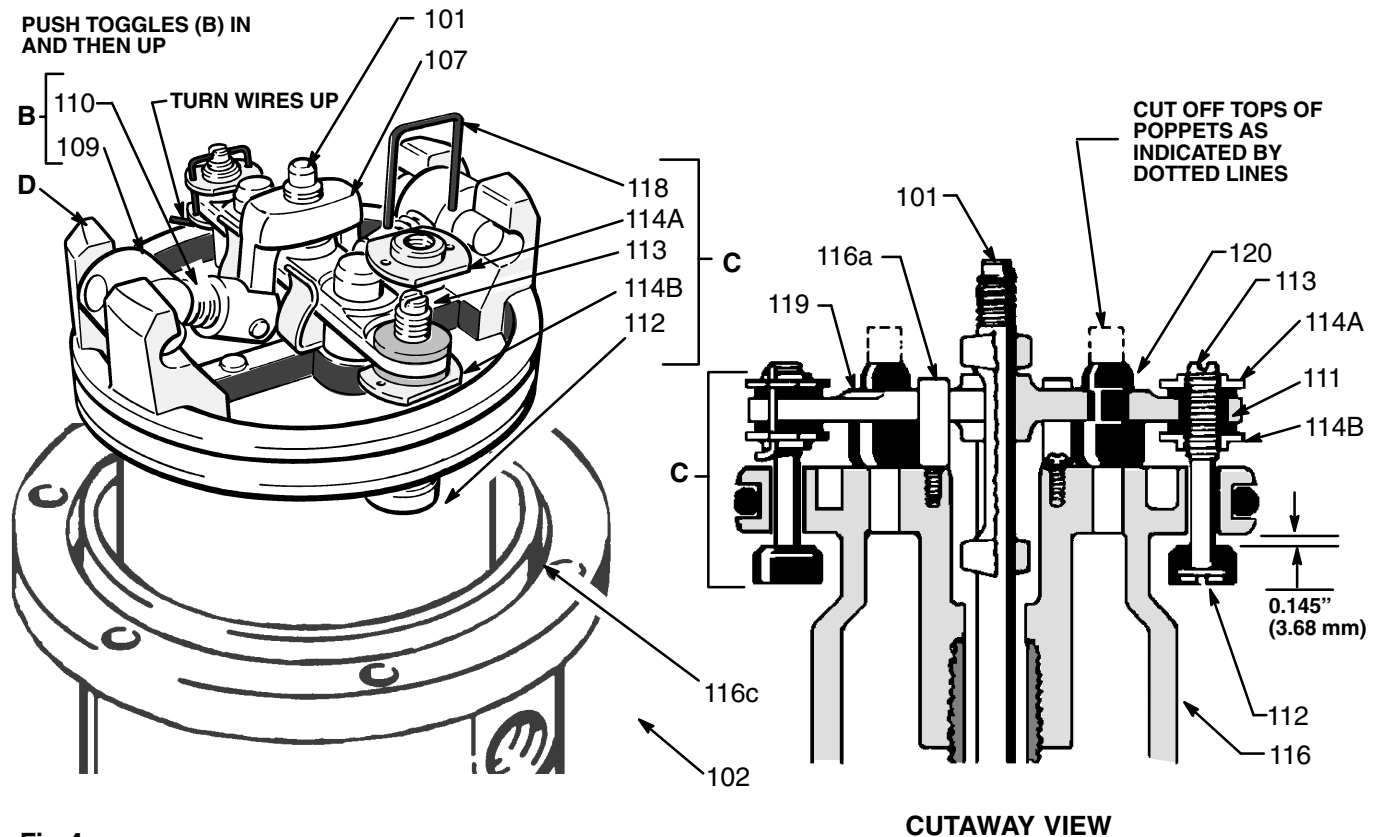

Fig 4
**NOTE:** Refer to Fig. 4 for Steps 5 to 21.
5. Use a screwdriver to push down on the yoke (107) and snap the toggle assemblies (B) down.
6. Remove the lockwires (118) and upper adjusting nuts (114A) from the air transfer valves (C).
7. Screw the stems (113) out of the grommets (111) and lower adjusting nuts (114B).
8. Remove the poppets (112) and inspect them for cracks.
9. Grip the rocker (109) with pliers, compress the spring (110), swing the toggle assembly (B) up and away from the piston lugs (D). Remove the parts.
10. Inspect the actuator (119) to be sure it is supported by the spring clips (116a), but slides into them easily.
11. Remove the yoke (107), actuator (119) and the trip rod (101).
12. Remove the poppets (120): stretch them out and cut them with a sharp knife.
13. Pull the piston (116) out of the base (102). Remove the o-ring (124) in the base casting.